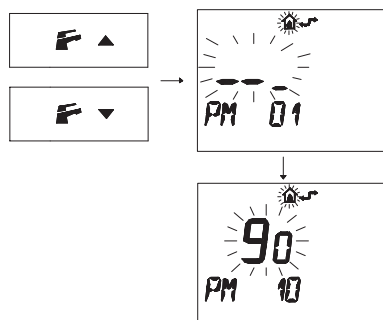

Figure 5.47
- Press buttons   or   to display the "PM10" program for selecting ignition frequency (Figure 5.47).
Figure 5.47 shows a programmed SET of **90**, which corresponds to a re-ignition time of approx. 3 minutes.